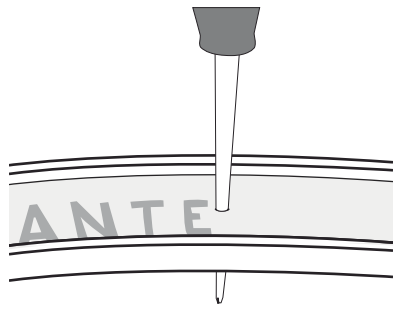

Figure 9. Push the tool through the rim tape to create a valve hole.
5. With a Phillips screwdriver or similar tool, create a valve hole through the rim tape by pushing firmly into the rim valve hole (Figure 9).